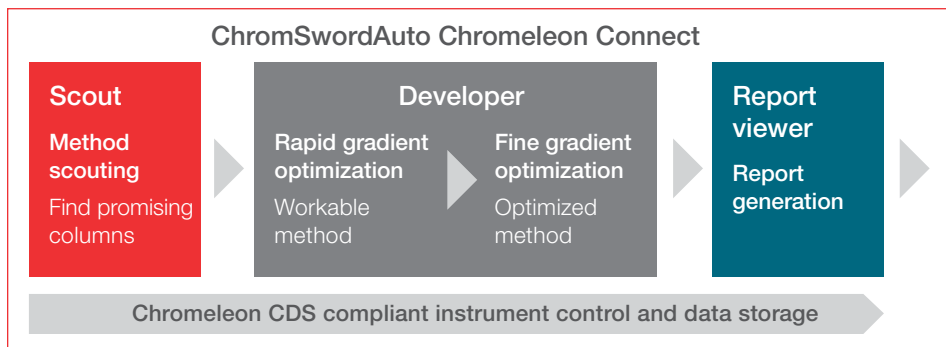

Figure 4. Method development workflow using ChromSwordAuto Chromeleon Connect
The Vanquish HPLC and UHPLC Method Development Systems utilize ChromSwordAuto Chromeleon Connect software for fast and automated method development, safe data storage and compliant method validation. The ChromSwordAuto Chromeleon Connect software modules, which include Scout, Developer, and ReportViewer, have been integrated with Chromeleon CDS and generated data is safely stored in any Chromeleon Data Vault for regulatory compliance (Figure 4). From generating method scouting plans to fine optimization, ChromSwordAuto Chromeleon Connect enables users of any skill level to efficiently develop reliable (U)HPLC methods with minimal time and effort.